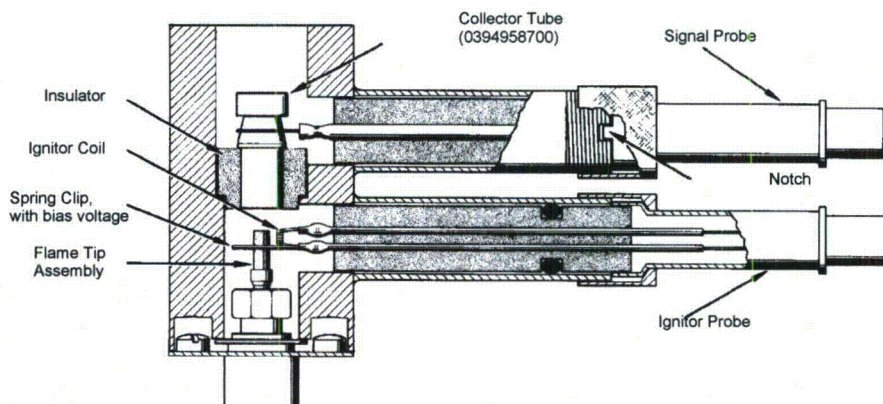

Figure 39: FID Cross-sectional View
9. Insert the signal probe into the upper arm of the detector tower. The probe clip should fit around the tapered section on the collector tube tightly enough to exert a downward force (see Figure 39). Secure the signal probe by tightening the knurled nut. Make sure the notch in the detector tower arm does not cut the O-ring seal.